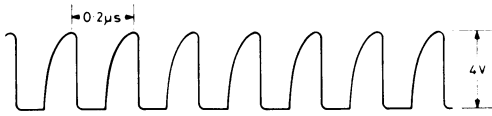

Fig. 4.4 Collector TR6, standard divider
NOTE. Test waveforms may vary slightly from the typical waveforms in Figs 4.4 to 4.15.
1. Connect the oscilloscope to collector of TR6, the waveform should be as Fig. 4.4.